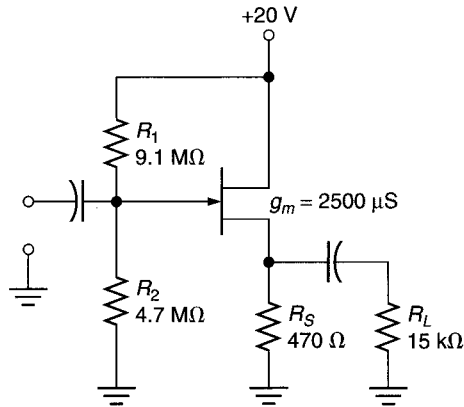

FIGURE 12.68
41. Determine the ranges of  $A_v$ ,  $Z_{in}$ , and  $Z_{out}$  for the amplifier in Figure 12.68.